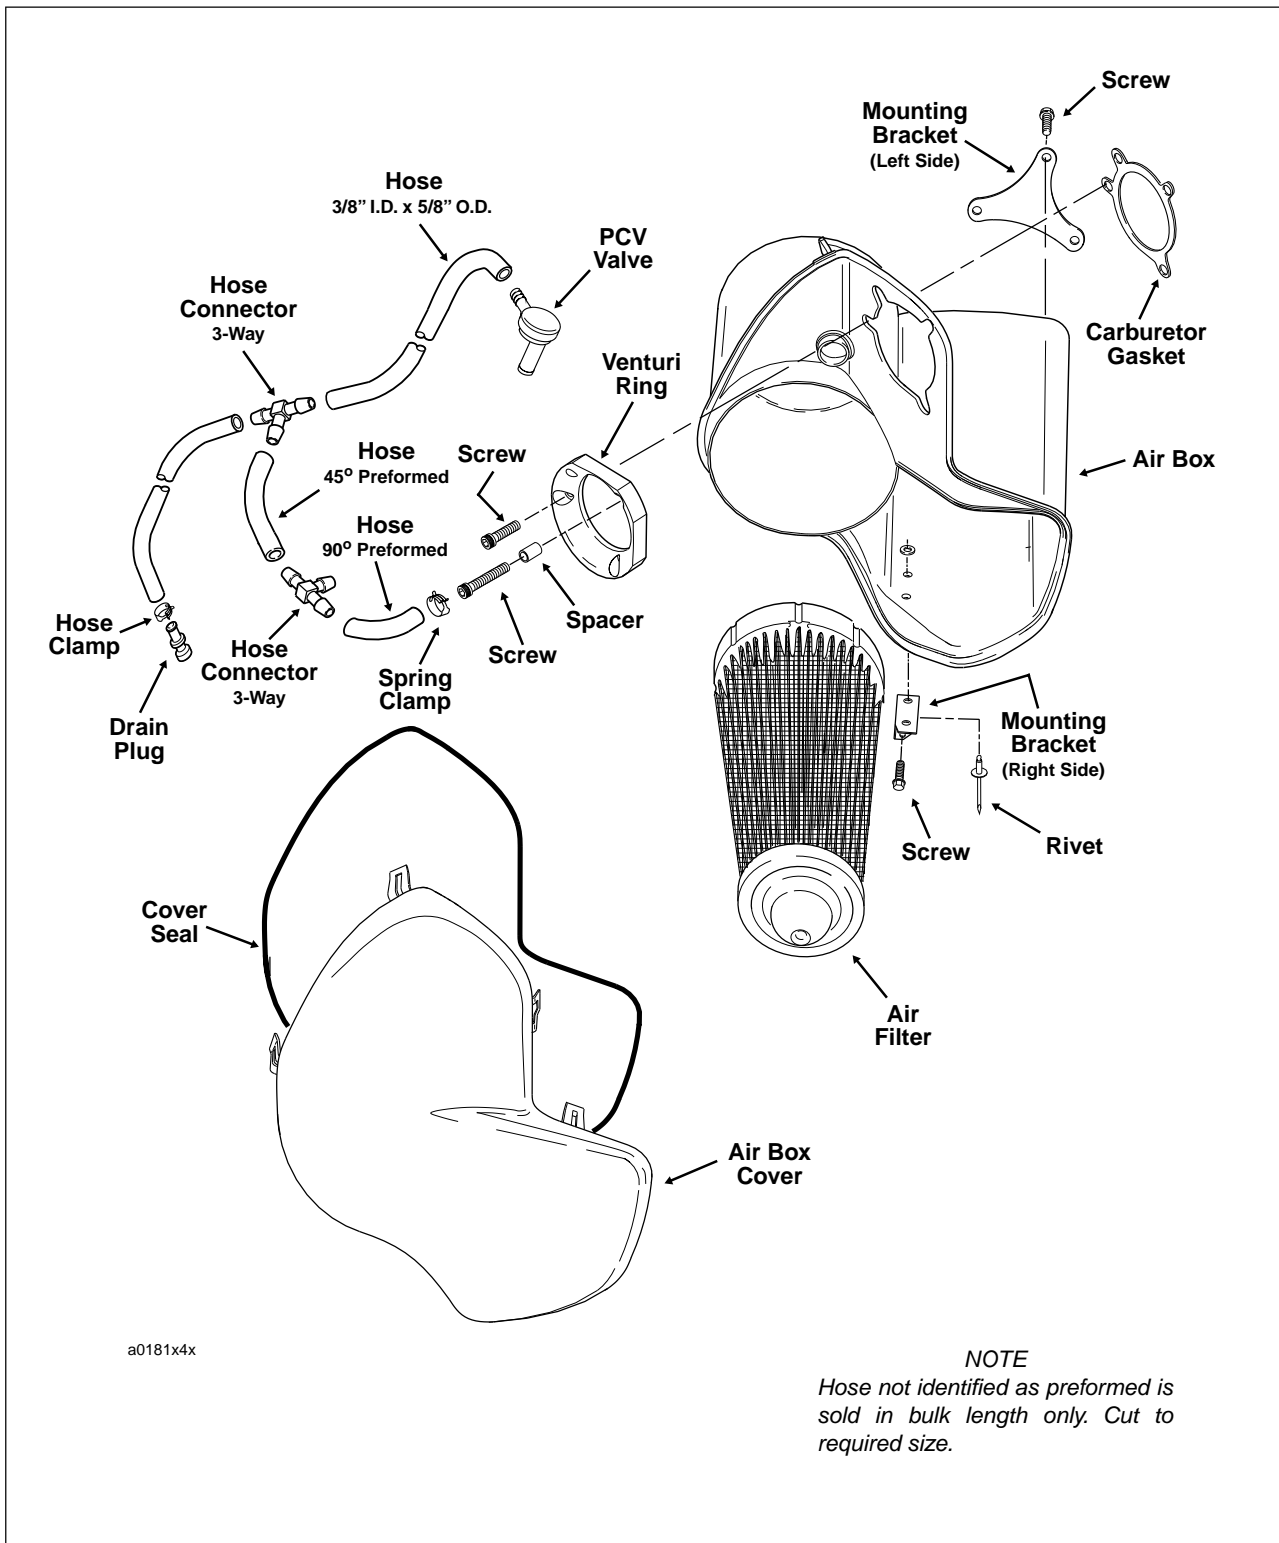

Figure 4-14. Air Cleaner Assembly (Non-California Models)
10. Taking note of index pin on inboard side of cover and small depression at tip of cone, position cover onto air box so that pin engages depression. See Figure 4-14.